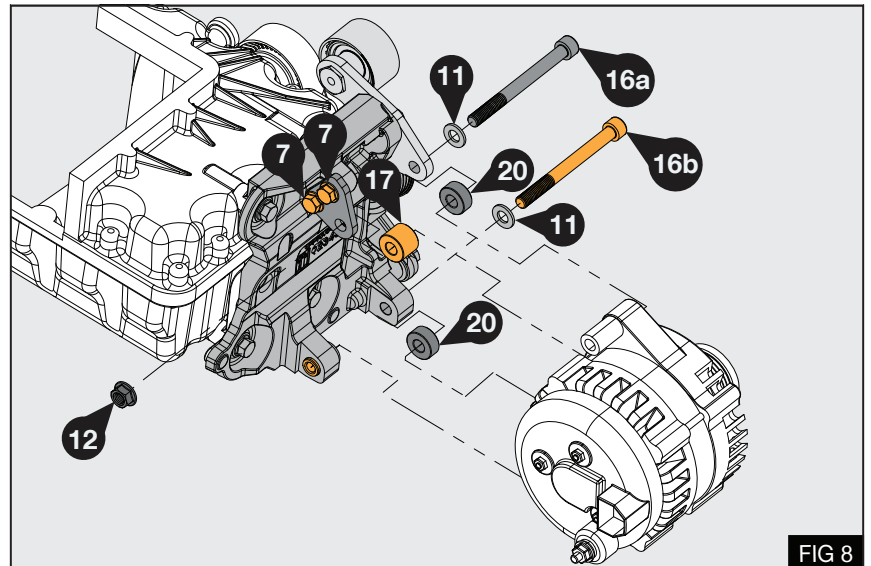

FIG 8
2. Install the alternator using 2x M10 x 110 bolts (16) with washers (11) while inserting spacers (20) between the alternator front faces and the mount / plate. - Fig 8
3. Fit the spacer (17) at the rear upper position and secure bolt (16a) with M10 nut (12) once through the rear plate.
4. The lower bolt (16b) engages into the threaded bush fitted into the mount. - Fig 8